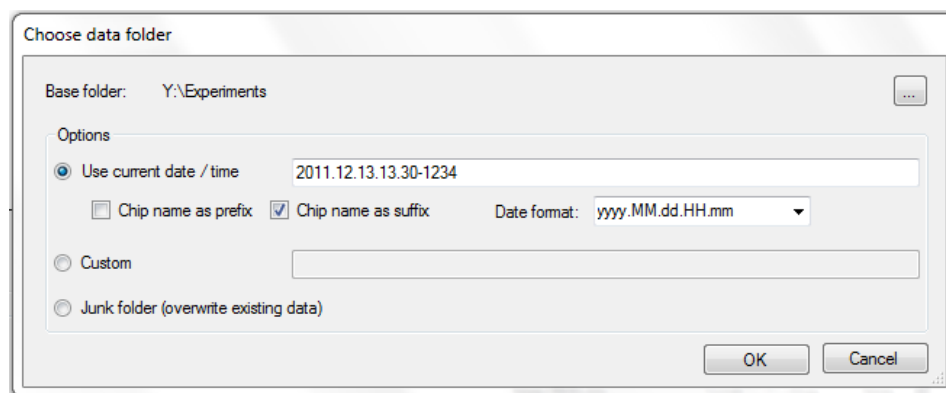

Figure 12. *Choose data folder* window.
8. In the *Choose data folder* dialog box (Figure 12) that appears, select a destination folder and file name options for your run data and click [OK].